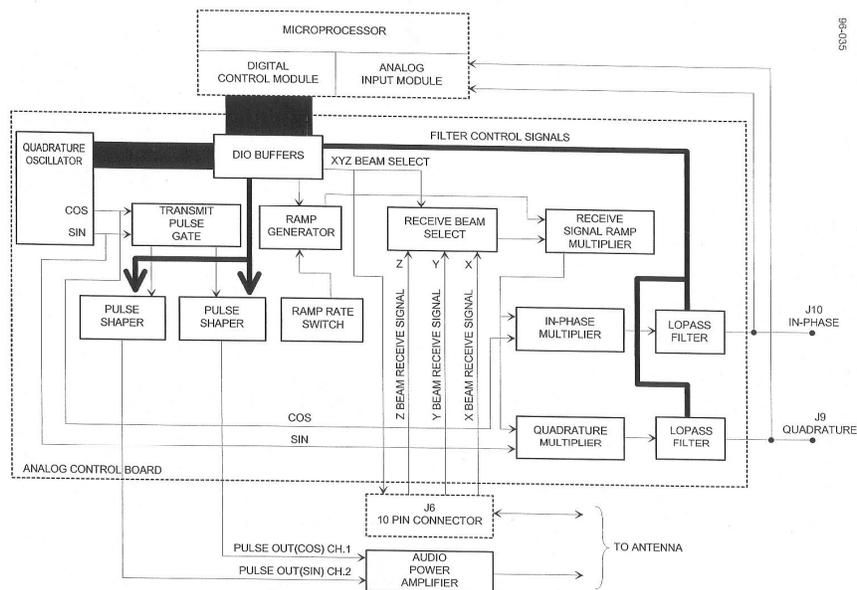

FIGURE 2-2: ANALOG CONTROL BOARD BLOCK DIAGRAM
The ACCB is installed as the top card in the ASP. It is interfaced to the microprocessor through the data acquisition and control boards. It performs the following operations: (1) select the active beam, (2) generate the transmit signal and (3) filter the received signal. The ACCB is designed to facilitate computer control of both the frequency and amplitude of the transmit signal. It also includes the low pass analog filter that is used to condition the received signal prior to digitization. Figure 2-2 shows the ACCB block diagram. Located on the front panel of the board is a 10 position rotary switch labeled ramp rate. The ramp rate is pre-set at the factory.